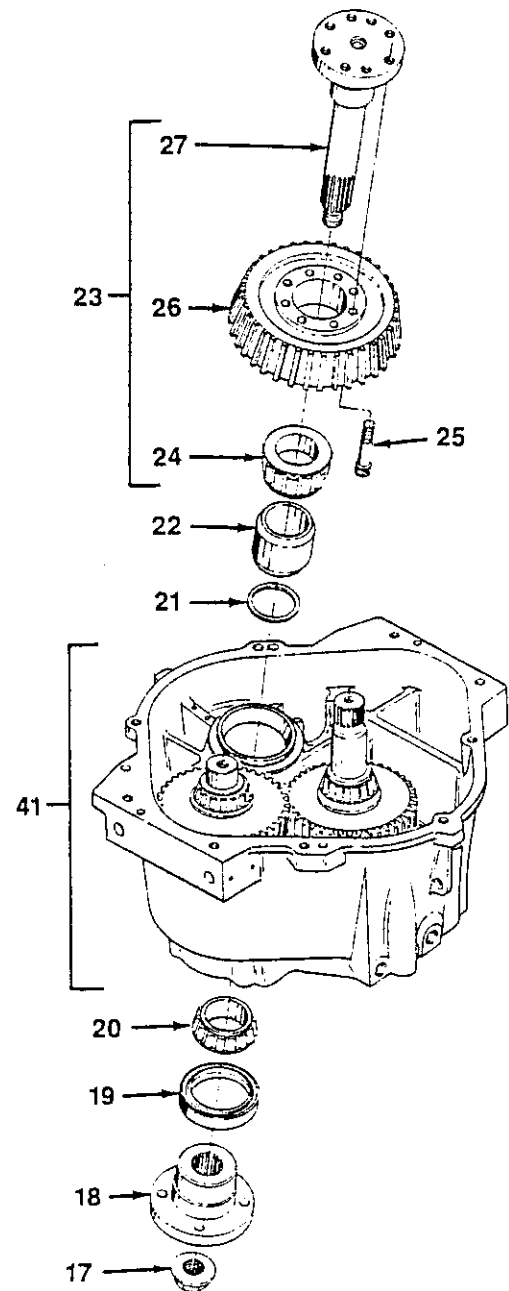

Figure 5-15. Output Shaft Assembly
**5-20. OUTPUT SHAFT ASSEMBLY.** Assemble and install output shaft assembly as follows (see figure 5-15):
1. Install output gear (26) on output shaft (27) and align bolt holes. Before assembly, apply Loctite 271 (red) to threads of each of eight bolts (25). Install bolts and torque to 18-24 lb-ft (24-33 Nm).
2. Using bearing drift T-5004, press bearing cone (24) onto output shaft (27) to bottom on shaft shoulder.